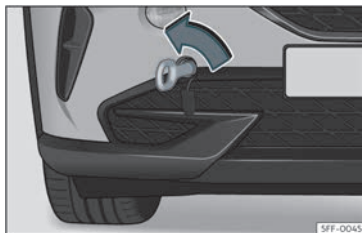

Fig. 44 Right side of the front bumper: towline anchorage in position.
- Screw the towing eye in the housing by turning it as far as it will go **anticlockwise**»» Fig. 44 »» ⓘ. Use a suitable object that can completely and securely tighten the towing eye in its housing.